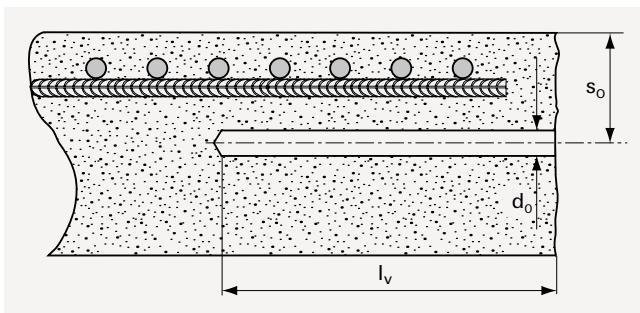

Fig. 4: Anchorage close to the edge of the building component
- The person carrying out the work must ensure that if the anchorage is close to a free edge (Fig. 4) the minimum concrete cover c_{\min} (Tab. 1) and minimum spacing $\min a_s$ (Eq. 1) of the reinforcement bars to be installed are observed.